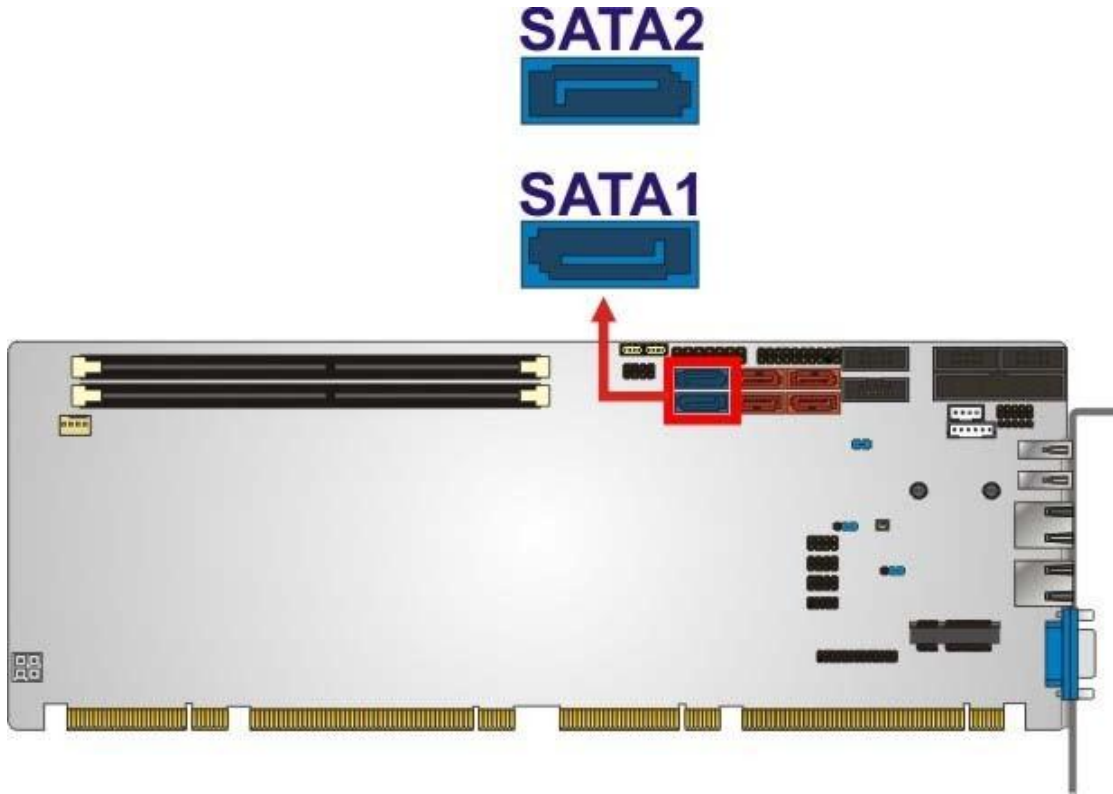

Figure 3-16: SATA 6Gb/s Drive Connector Location
- CN Location: See Figure 3-16